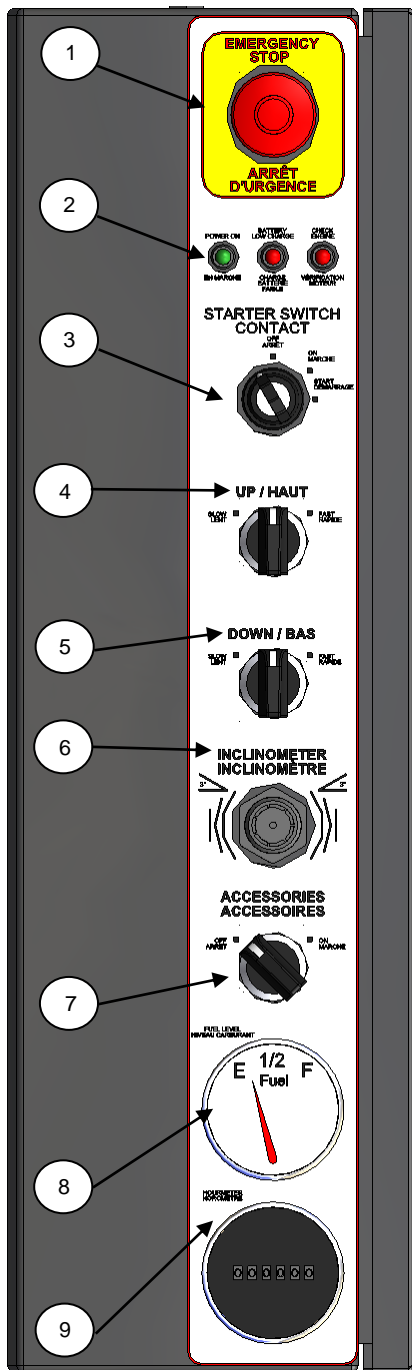

Figure 28 - ACT-8 Control panel (diesel - gas)
- All loads likely to slip or fall from the platform must be secured. Keep the platform free of debris, rubbish, snow, etc. Make sure that no tools or other objects extend beyond the outer perimeter of the platform limited by the plankings and guardrails. At any time, you can stop operation by pressing the **EMERGENCY STOP** button (See Figure 28 and Figure 30). In the event of breakage or malfunction, secure the platform.
- 3- Make sure the « emergency stop button » (see Figure 28) is released.
- 12- Turn the « CONTACT » key (see Figure 28) to the « START » position.
- 14- After starting, the two (2) « Check engine » and « Low battery » indicator lights must go out. If they remain on, stop the engine immediately. If the problem persists, contact a FRACO representative.
Inclinometer alarm (See Figure 28 and Figure 30):
In the event of a malfunction or when using the « **Emergency Stop Button** » (See Figure 28 and Figure 30), or a stop caused by the inclinometer (SEE USING THE INCLINOMETER, ON PAGE 30), the emergency descend system can be used to position the platform at a lower level, allowing safe evacuation or restarting of the machine.